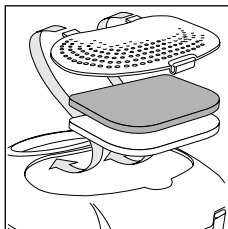

fig. 15
N.B: The white filter must rest on the metal part (fig. 15) and the coloured area must face upwards (towards the black filter).
Reassemble the filter cover, being careful to insert the front hooks correctly (as shown in fig. 15).